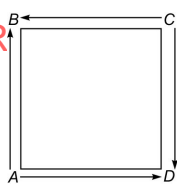

Fig. Q. 24
24. Figure Q. 24 shows an element in the material subject to shearing stresses of magnitude q . Then stresses along AC and BD are